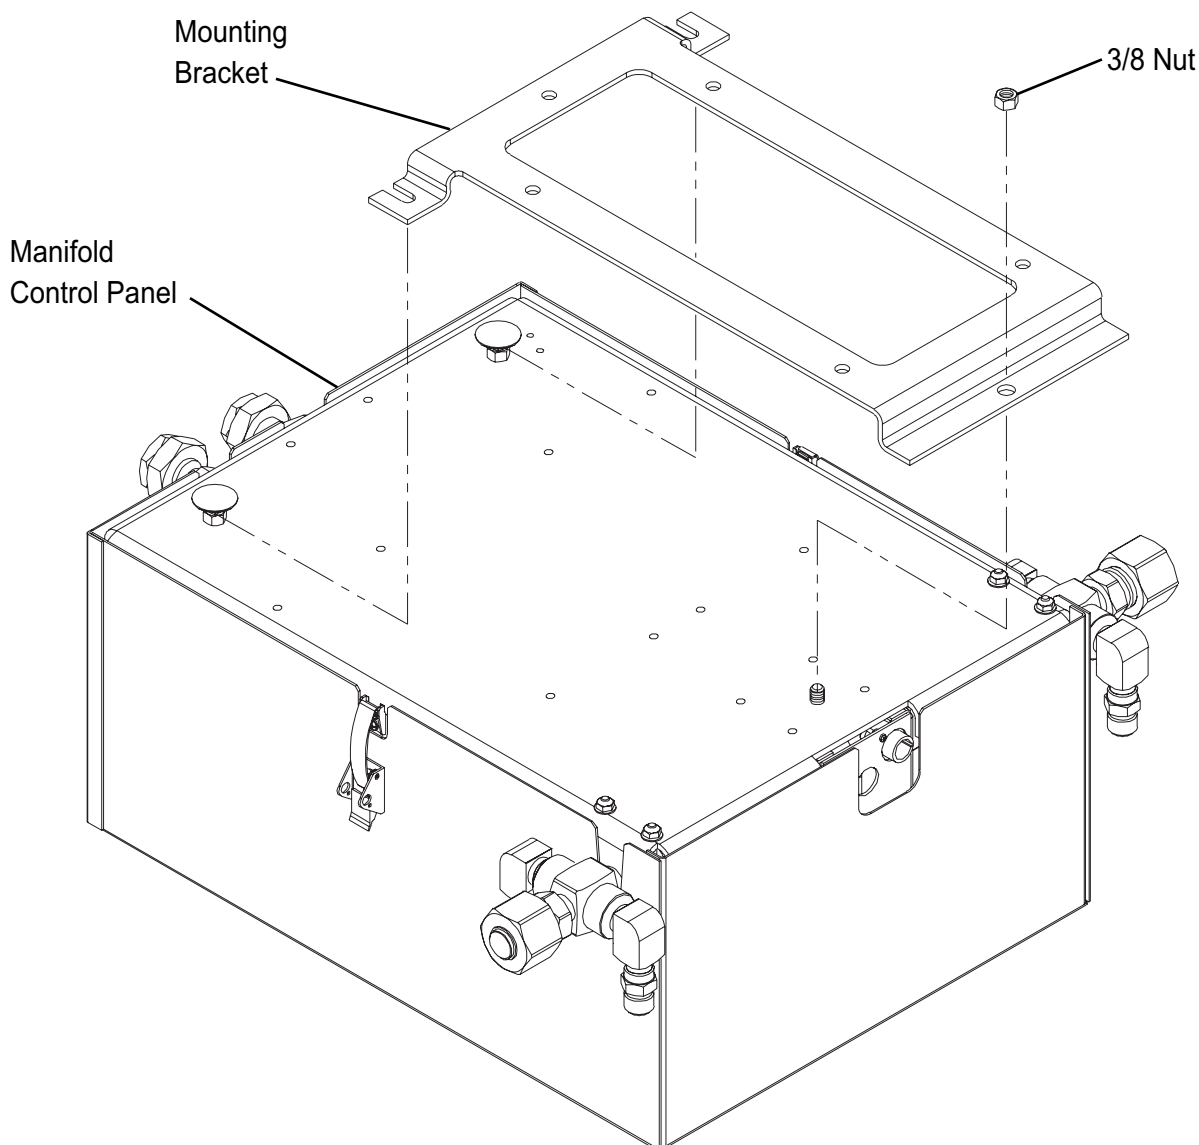

Figure 1
2. Mounting bracket is shipped attached to back of manifold control panel. Remove lower $\frac{3}{8}$ " mounting nut as shown in Figure 1. Pull bottom of bracket away from manifold control panel and slide bracket off two upper control panel mounting bolts.
2. Mounting bracket is shipped attached to back of manifold control panel. Remove lower 3/8" mounting nut as shown in Figure 1. Pull bottom of bracket away from manifold control panel and slide bracket off two upper control panel mounting bolts.